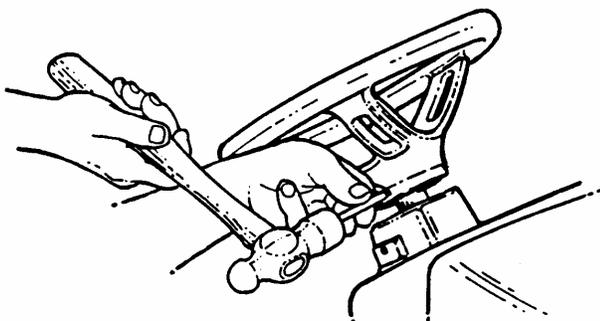

FIGURE 2
1. Place steering wheel over steering shaft located on tractor. Align hole in steering shaft with holes in steering wheel and insert roll pin. Tap roll pin with hammer gently through steering wheel and shaft until roll pin is centered on the shaft. Do not use excessive force! (See Figure 2)